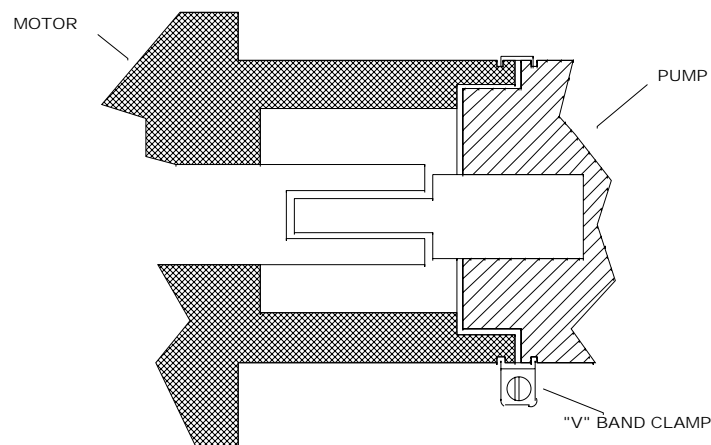

Figure 3
- A. Be sure shoulder of pump housing and flat of pump shaft line up with the recesses provided in the motor before tightening the V-band clamp to hold the assembly together. Refer to Figure 3.